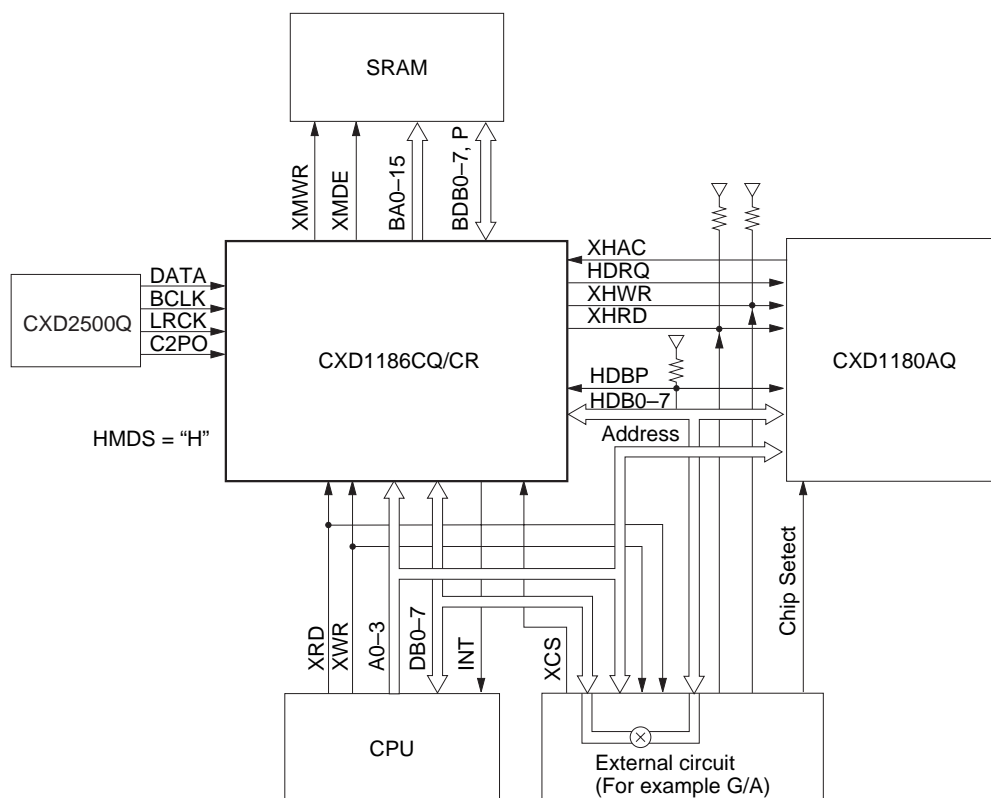

Fig. 4.3.1 CXD1186CQ/CR connection (connecting method 1 with SCSI control IC)
- An example for the connection of this IC to an SCSI control IC where CPU bus and DMA bus are not separated (ex. CXD1180AQ) is shown in Fig. 4.3.1.